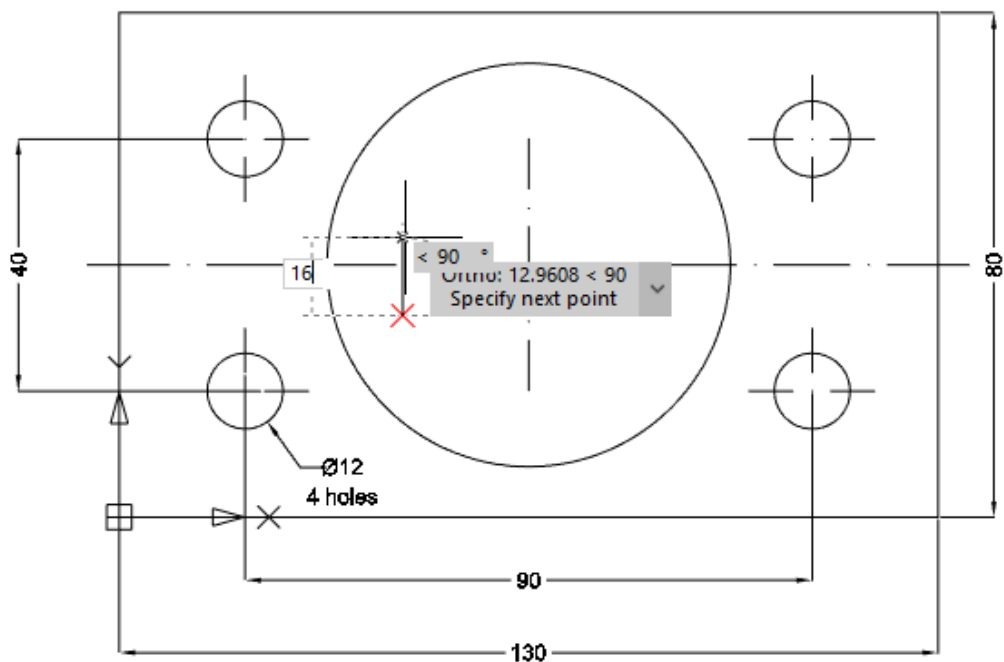

Fig. 3. Dynamic input
2. Start drawing the polyline from the base point. Type the distance 16 (fig. 3):